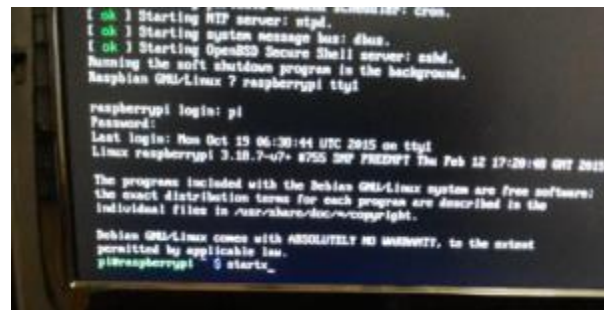
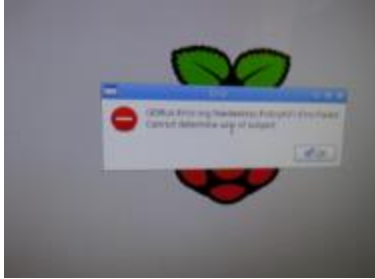

Figure 9 After login, startx.
Figure 10 Error pop up window.
Step 8: At `pi@raspberrypi ~$` prompt type in 'startx', press the enter key to start the Raspbian operating system as shown in figure 9. You can also use the up or down arrow key on the keyboard to scroll through the last few commands that you typed. When it shows 'startx', press the enter key. It will load a screen as shown in figure 10. If an error pop up as shown in figure 10, press the OK button with the mouse to close that pop up window.